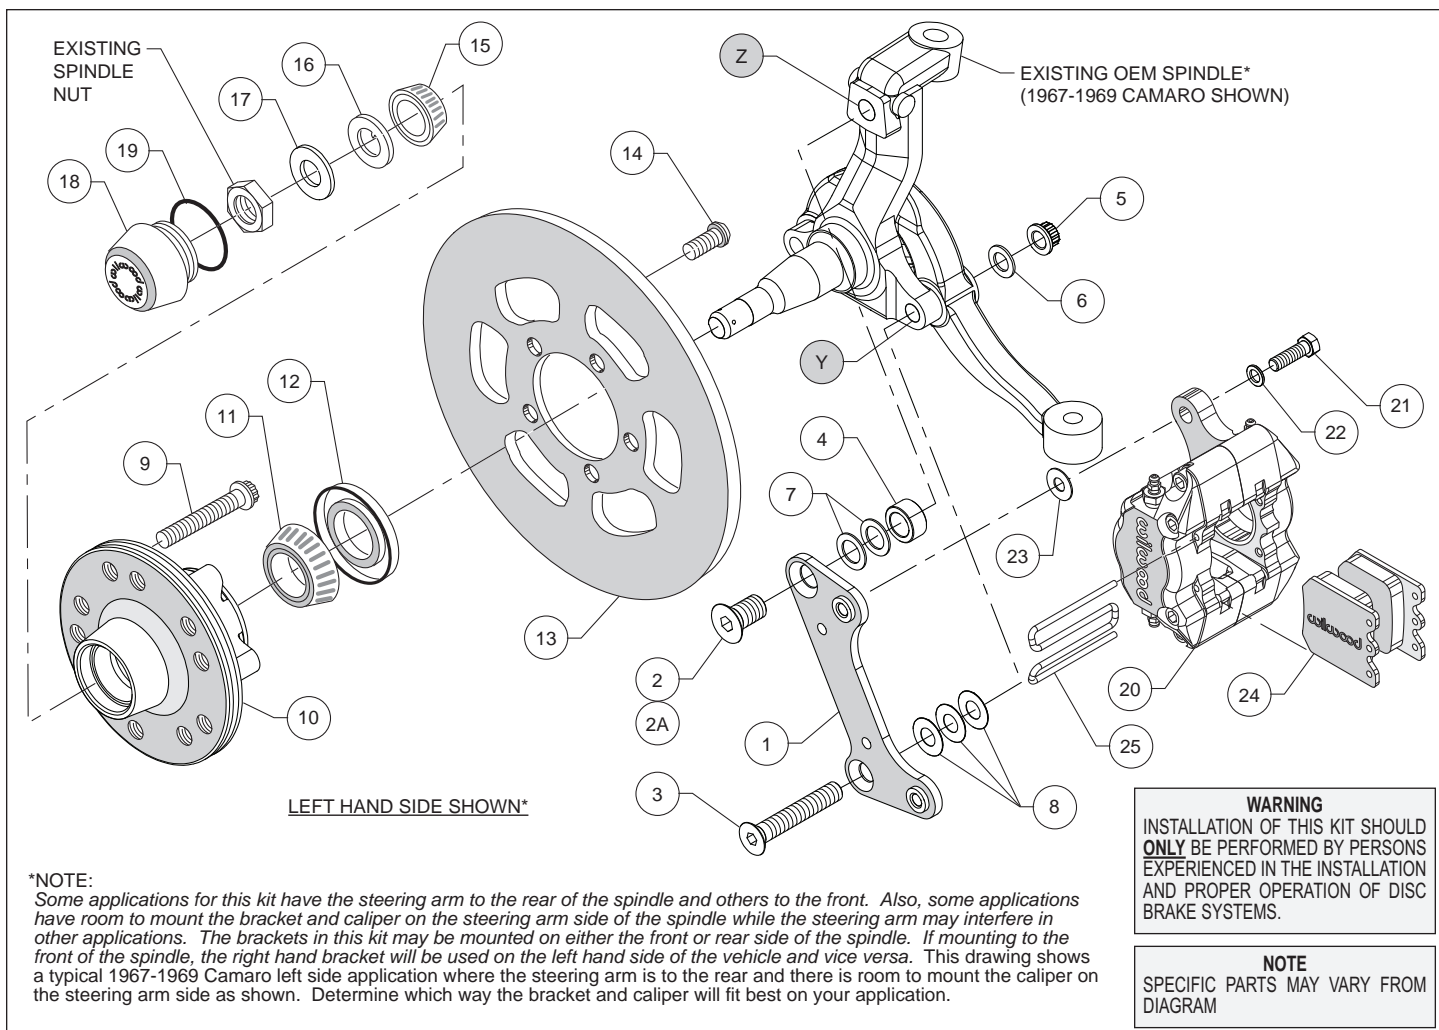
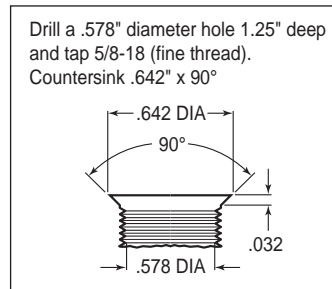
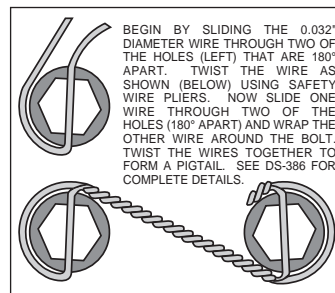
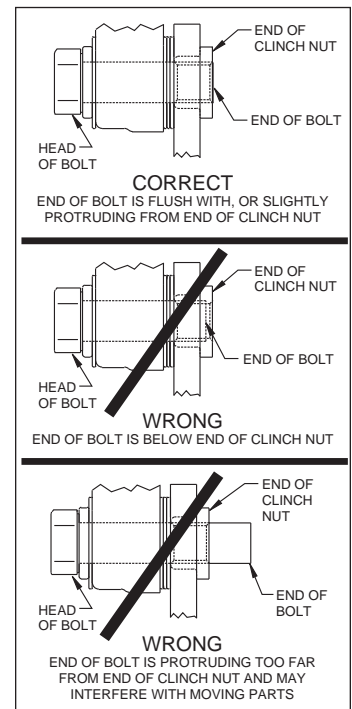

Figure 1. Typical Installation Configuration
Figure 3. Drill and Tap Detail
Figure 4. Safety Wire Diagram
Figure 5. Clinch Nut Engagement Diagram
**Assembly Instructions** (numbers in parenthesis refer to the parts list, on the preceding page and Figure 1): **CAUTION:** All mounting bolts must fully engage clinch nuts. Be sure to check that all bolts are either flush or protruding through flanged side of clinch nut after shimming, Figure 5.
•**NOTE:** Some applications for this kit have the steering arm to the rear of the spindle and others to the front. Also, some applications have room to mount the bracket and caliper on the steering arm side of the spindle while the steering arm may interfere in other applications. The brackets in this kit may be mounted on either the front or rear side of the spindle. If mounting to the front of the spindle, the right hand bracket will be used on the left hand side of the vehicle and vice versa. Figure 1 shows a typical 1967-1969 Camaro left side application where the steering arm is to the rear and there is room to mount the caliper on the steering arm side as shown. Determine which way the bracket and caliper will fit best on your application.
•**NOTE:** Some spindles in this year range may require the following modifications (reference Figure 1 and Figure 3): Top anchor pin hole (Z) must be drilled and tapped to the dimensions as outlined in Figure 3. The lower bolt hole (Y) in the spindle used to mount the new caliper bracket, and the mating steering arm hole, must be enlarged to .50" by drilling. It is recommended these modifications be performed by a qualified machinist.
•Install wheel studs (9) into the hub (10), Photo 1. Torque to 77 ft-lb. **NOTE:** There are two five lug patterns in the hub (5 x 4.50 and 5 x 4.75). Ensure the correct hub stud pattern is being used to fit the wheel application.
•Pack the large inner bearing cone (11) with high temperature disc brake bearing grease (available from your local auto parts store) and install into the backside of the hub (10), Photo 2.
•Install the grease seal (12) by pressing into the backside of the hub (10), flush with the end of the hub, Photo 2.
•Orient the rotor (13) and the hub (10) as shown in Figure 1. Attach the rotor to the hub using bolts (14). Using an alternating sequence, apply red *Loctite*® 271 to the threads, and torque to 45 ft-lbs.
•**Disc Brake Spindle Application Only:** Follow the instructions below, but instead use bolt (2A), spacer (4), and two .050" thick shims (7) in the upper bolt hole location, Figure 1.
•Orient the caliper mounting bracket (1) as shown in Figure 1 and Photo 3, and install using bottom bolt (3), washer (6), and nut (5), Figure 1. Initially place three .032" thick shims (8) between the bracket and spindle. Install the upper bolt (2). Temporarily tighten bolts. **NOTE:** *The bracket must fit squarely against the mounting surfaces on the spindle.* Inspect for interference from casting irregularities, machining ridges, burrs, etc. Temporarily install the new hub and rotor assembly. Check that the bracket is aligned parallel to the rotor, Photo 4. If not, adjust by adding or subtracting shims (8) on the lower bolt between the bracket and spindle, Figure 1. Once the bracket alignment is correct, remove the upper bolt (2 or 2A), apply red *Loctite*® 271 to the bolt threads, and torque to 120 ft-lb. Torque the lower lock nut to 65 ft-lb.
•Pack the small outer bearing cone (15) with high temperature disc brake bearing grease and install into hub (10). Final install the hub/rotor assembly onto the spindle. Secure using spindle washer (16) and OEM spindle nut. Adjust bearings per OEM specifications. Install saved OEM nut lock (if any) and a new cotter pin (not included). **NOTE:** *Because of a tolerance variation among spindles, it may be necessary to install a shim washer (17) between the spindle washer (16) and the spindle nut if the spindle nut will not tighten down all the way.*
•Screw dust cap (18) into hub (10). Friction created by the o-ring (19) on the dust cap keeps it from unscrewing. **NOTE:** *The O.D. of the existing OEM spindle washer may be larger than the I.D. of the dust cap not allowing it to seat against the hub face. Therefore, use the spindle washer (16) supplied with the kit instead of the OEM washer.*
•**NOTE:** *Please reference the caution statement at the beginning of the assembly instructions.* Mount the caliper (20) onto the caliper mounting bracket (1) using bolts (21) and washers (22), as shown in Figure 1. Initially place one .035" thick shim (23) on each bolt between the caliper and the bracket. Temporarily tighten the mounting bolts and view the rotor (13) through the top opening of the caliper. The rotor should be centered in the caliper. If not, adjust by adding or subtracting shims (23) between the bracket and the caliper. Always use the same amount of shims on each of the two mounting bolts. **NOTE:** *The end of each bolt must be flush with or slightly protruding from the head of the clinch nut, as shown in Figure 5.* If necessary place spare shims (23) between washer (22) and caliper mounting ear to achieve the proper clinch nut engagement. Once the caliper alignment and clinch nut engagement are correct, remove the bolts one at a time, apply red *Loctite*® 271 to bolt threads, and torque to 40 ft-lb. For an added measure of security, the bolts may be safety wired using standard 0.032 inch diameter stainless steel safety wire as shown in Figure 4. Refer to Wilwood's data sheet DS-386 (available at [www.wilwood.com/Pdf/DataSheets/ds386.pdf](http://www.wilwood.com/Pdf/DataSheets/ds386.pdf)) for complete safety wire installation instructions.
•Install the disc brake pads (24) into the caliper, with the friction material facing the rotor (13), and secure in place using pad clip retainer (25).